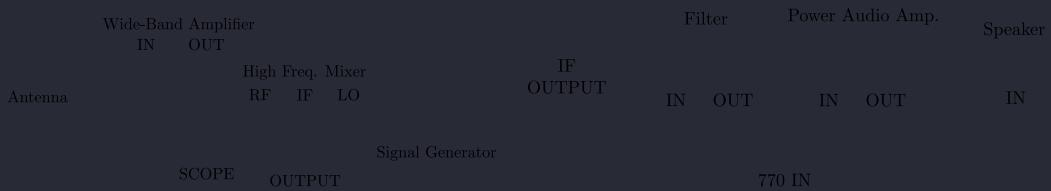

Figure 2.7: Experimental setup for AM radio reception.
- The LC-resonant slightly tunes the frequency range into a narrow band of frequencies, which can be changed by adjusting the number of inductors we put in series (Fig. 2.7).
- Downconversion: Before we narrow the frequency search range, we can first use downconversion to bring the high frequency AM signals to a lower frequency range provided by the High-Frequency (HF) Mixer module.
- Local-oscillator (LO) source: Using the 33500B, we set the LO frequency so that the difference between the LO and the AM signal is in the range of our 770 (100 kHz). e.g., for target radio station (RF) 850 kHz, setting the LO to 770 or 930 kHz will output a 80 kHz difference frequency from the HF mixer. It will also output sum & difference frequencies from other radio stations which we must filter with the IF output.